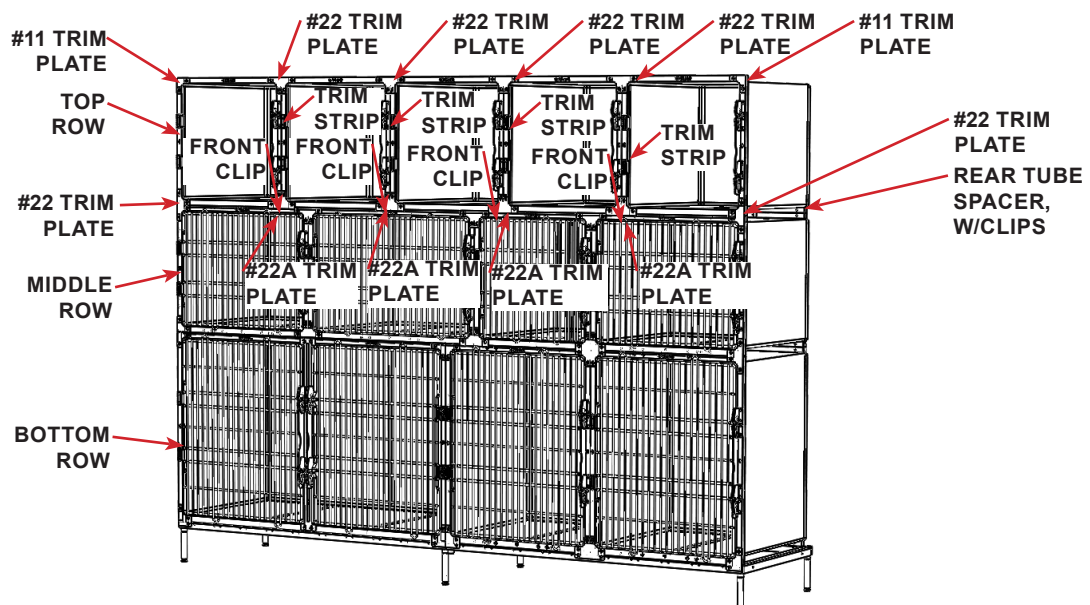

FIGURE 2.49 - Phase III Assembly Progress Illustration, Configurations Vary
STEP 7: Remove the screws and install, but do **NOT** fully tighten screws, the trim strips connecting the cage row together, as each cage is added to the row. See FIGURE 2.49
STEP 8: Remove the screws and install, but do **NOT** fully tighten screws, the trim plates connecting the top row to the row below. See FIGURE 2.49